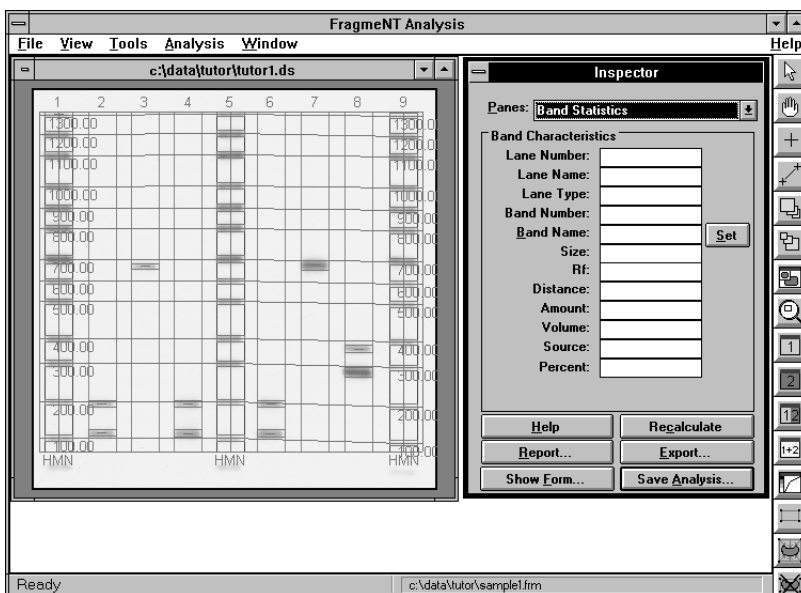

Figure 4-9. Closing the saved analysis.
7. From the list of files in the Open Analysis File window, double-click **IMAGE1**. The objects, such as isobar lines and band markers, appear on the image together with the Band Statistics inspector (figure 4-9).
To close the Image window, double-click the control menu button () on the Image window (figure 4-9). If you did not previously save the experiment, a message appears asking if you want to save the experiment. If you select **Yes**, the Save Analysis File window appears. Type a name for the analysis file, and then click **OK**.